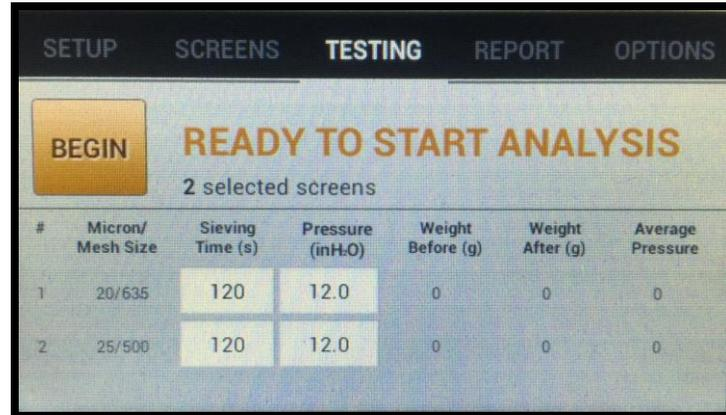

Figure 42
15. Once the required values have been entered press the **BEGIN** button to start the analysis. (See Figure 42) Follow the on screen instruction to proceed through the analysis process.